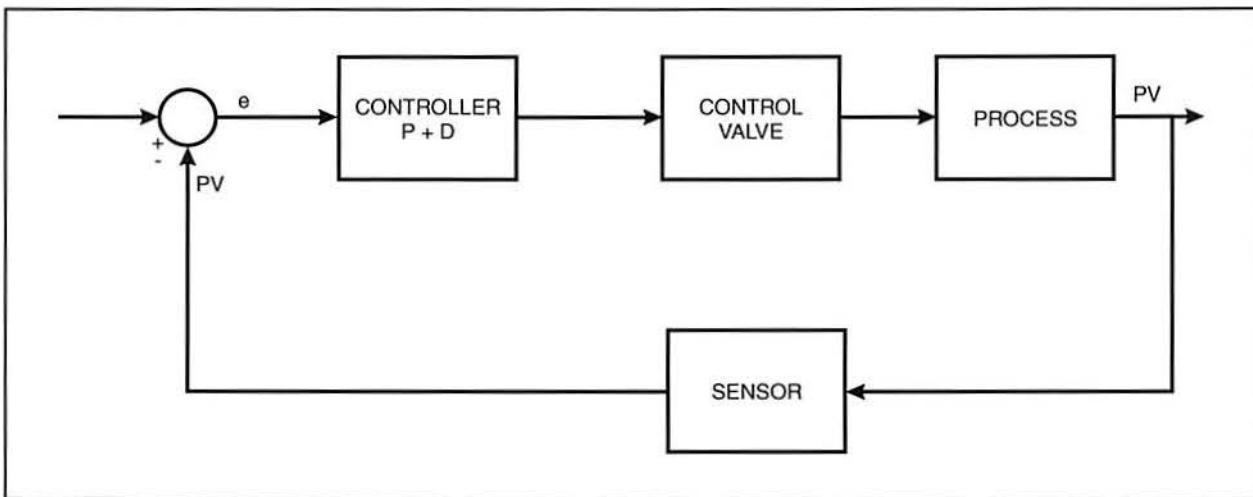

Figure 63. Block Diagram of a Process Control System Using PD Control
Proportional-Derivative (PD) control combines the proportional and derivative actions to provide an immediate response that is not only proportional to the error but also anticipates the error based on how quickly the error is changing. Figure 63 shows a block diagram of a process control system that uses PD control. The controller calculates the error and determines the required combination of proportional action and derivative action necessary to correct the error. The output is then sent to the valve to control the process.